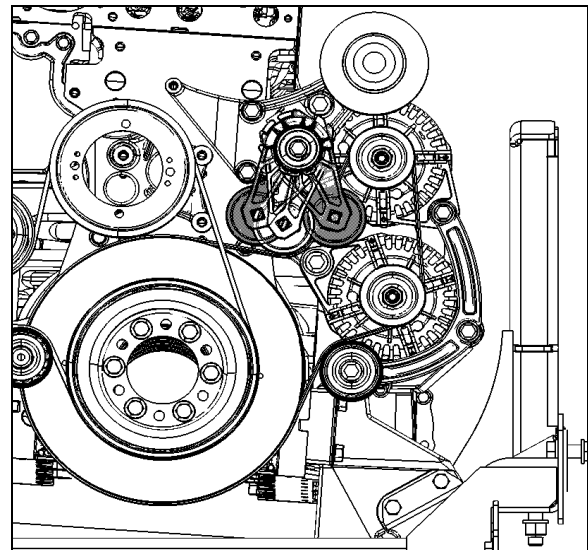
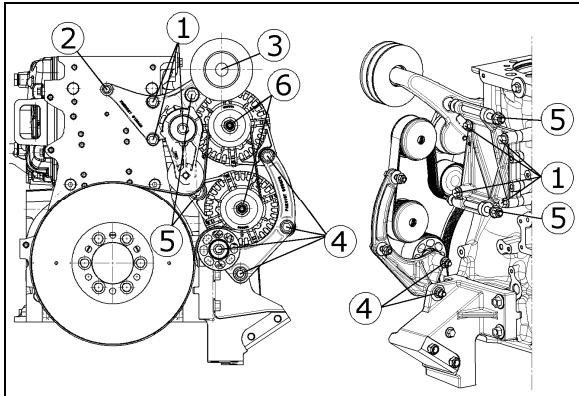

FIGURE 22: ALTERNATORS DRIVE BELT
FIGURE 23: TWIN BOSCH ALTERNATORS INSTALLATION
If the alternators needed to be removed, reinstall as follows. Refer to figure 22 for installation and to figure 23 for tightening specifications:
1. If necessary, tighten screws (6) fixing alternators support assembly onto engine (1, figure 23). Torque tighten to 43 Lb-Ft, use some Loctite 243 blue (680038) onto the threads. Also tighten screw (1) fixing belt tensioner onto alternators support assembly (1, figure 23). Torque tighten to 43 Lb-Ft, use some Loctite 243 blue (680038) onto the threads.
2. If removed, reinstall screw (1) fixing alternators support assembly onto engine (2, figure 23). Torque tighten to 22 Lb-Ft, use some Loctite 243 blue (680038) onto the threads.
3. Mount the A/C compressor idler pulley onto alternators support assembly (3, figure 23). Torque tighten to 150 Lb-Ft, use some Loctite 243 blue (680038) onto the threads.
4. Install alternators arched support loosely onto engine. If removed, install alternators idler pulley (4, figure 23) onto alternators arched support, torque tighten to 43 Lb-Ft.
5. Fix lower and upper alternators loosely to alternators support assembly using bolts (5, figure 23). Also, mount the lower and upper alternators onto alternators arched support. If removed install stone guard below lower alternator.
7. Mount pulleys (6, figure 23) onto alternators. Torque tighten to 58 Lb-Ft.
8. Install alternators belt (figure 22).
1. Insert a $\frac{3}{4}$ " socket drive into the automatic belt tensioner opening (Fig. 22).